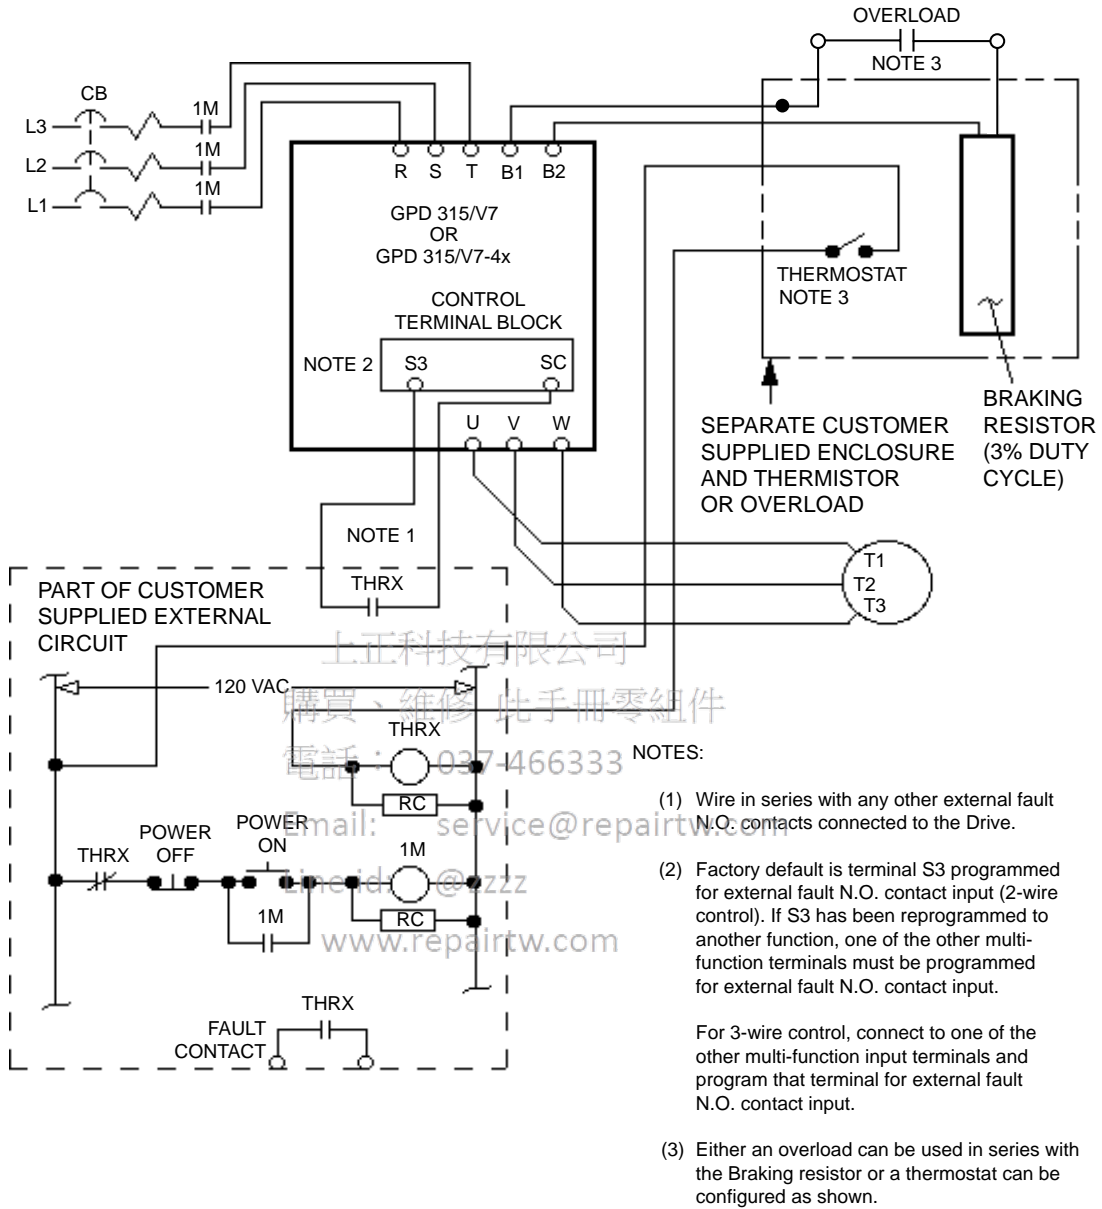

Figure A6-1. Typical Wiring of Braking Resistor (for 3% Duty Cycle) to Drive
2. At the Drive. Connect the leads from the Braking Resistor to drive terminals B1 and B2, and make connections to external control circuit, as shown in Figure A6-1.